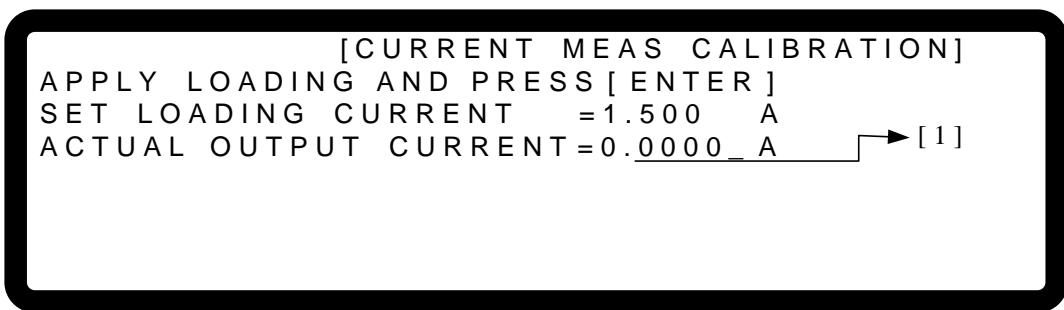

Figure 3-112
6. The calibration option will display as shown in Figure 3-112. Press “**ENTER**”. The low current range will be calibrated first. The system outputs a fixed voltage and then sets the loading current of the Electronic LOAD to 1.5A. The cursor stops at position [1] as shown in Figure 3-112. Enter the current read by the Current Shunt (DVM) and press “**ENTER**” to confirm and wait for it to end.